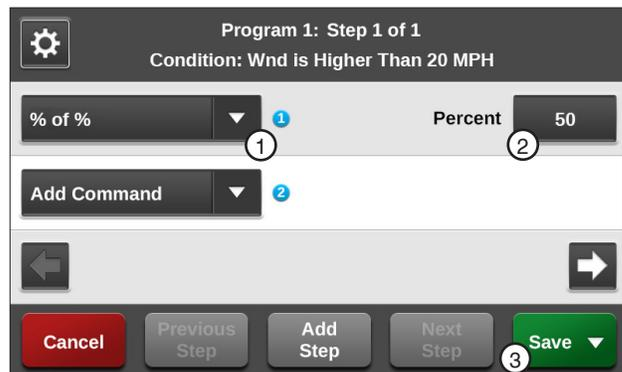

Figure 119-3 1. % of % Command 2. Percent 3. Save
4. Enter the command to be executed when wind speed is higher than 20 MPH. Refer to Figure 119-3.